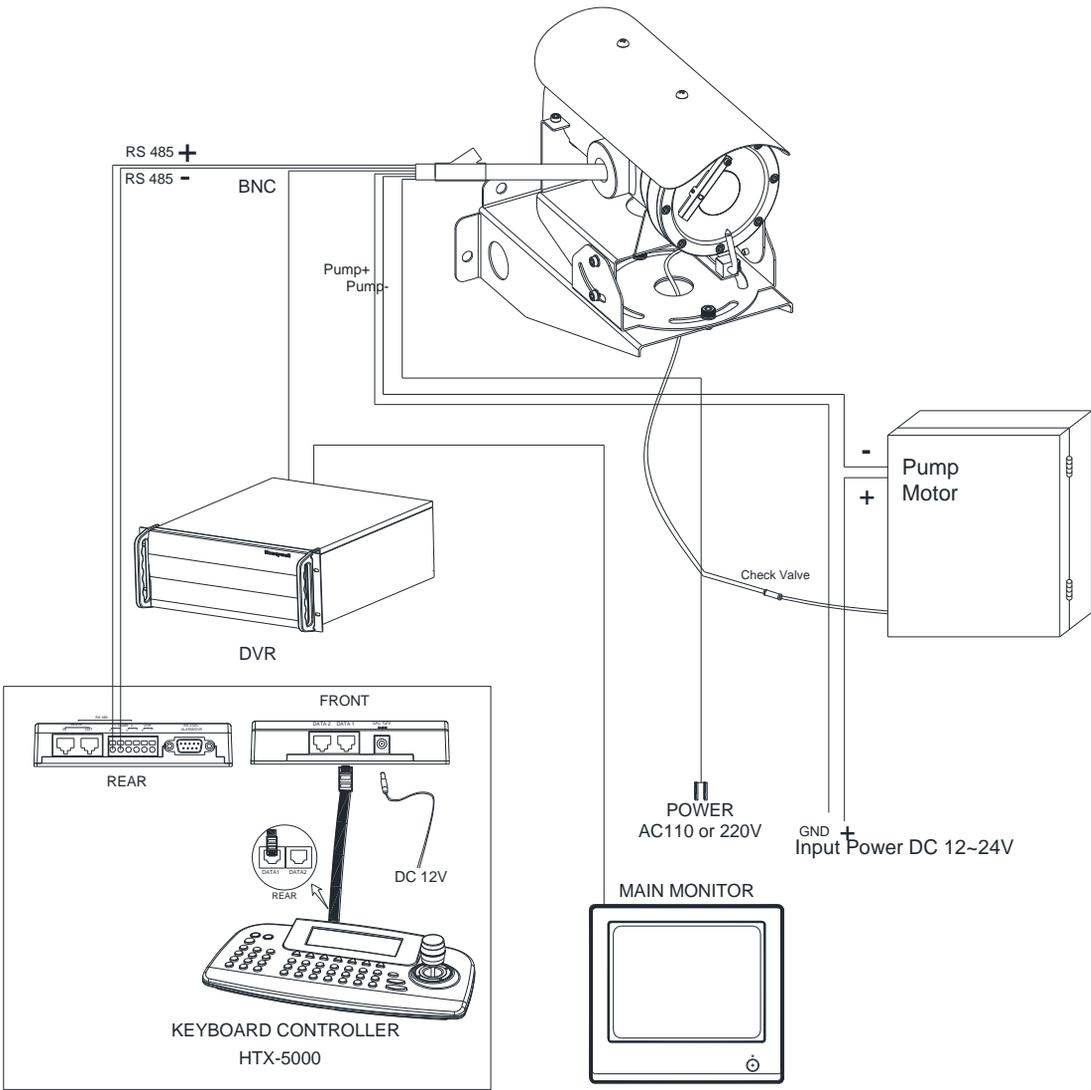

Figure7.
1. Figure7 is recommended for the base Schematic of Installation.